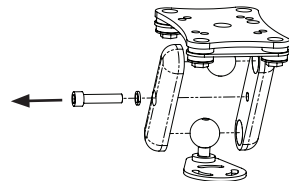

Figure 1
3. Using the 5/32" *Hex Key*, remove the *Positioning Screw* and *Positioning Lock Washer* to disassemble the Mount as shown in **Figure 1**.